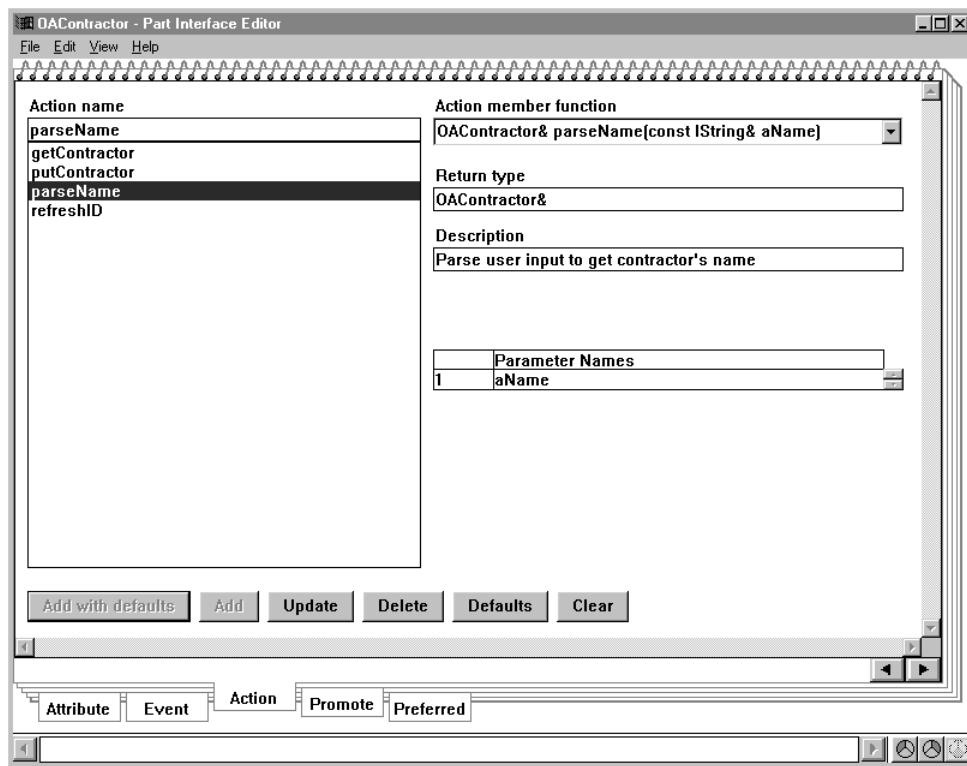

Figure 31. Adding Actions to the Part Interface Editor
- j. Repeat for the *getContractor*, *parseName*, and *refreshID* actions. At this point, the **Action** page appears as shown in Figure 31.